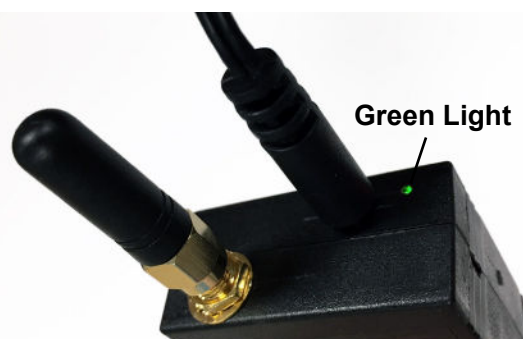

Figure IS-16, Connected
12. Once the connection has been established, the LED will illuminate green. Refer to Figure IS-16.